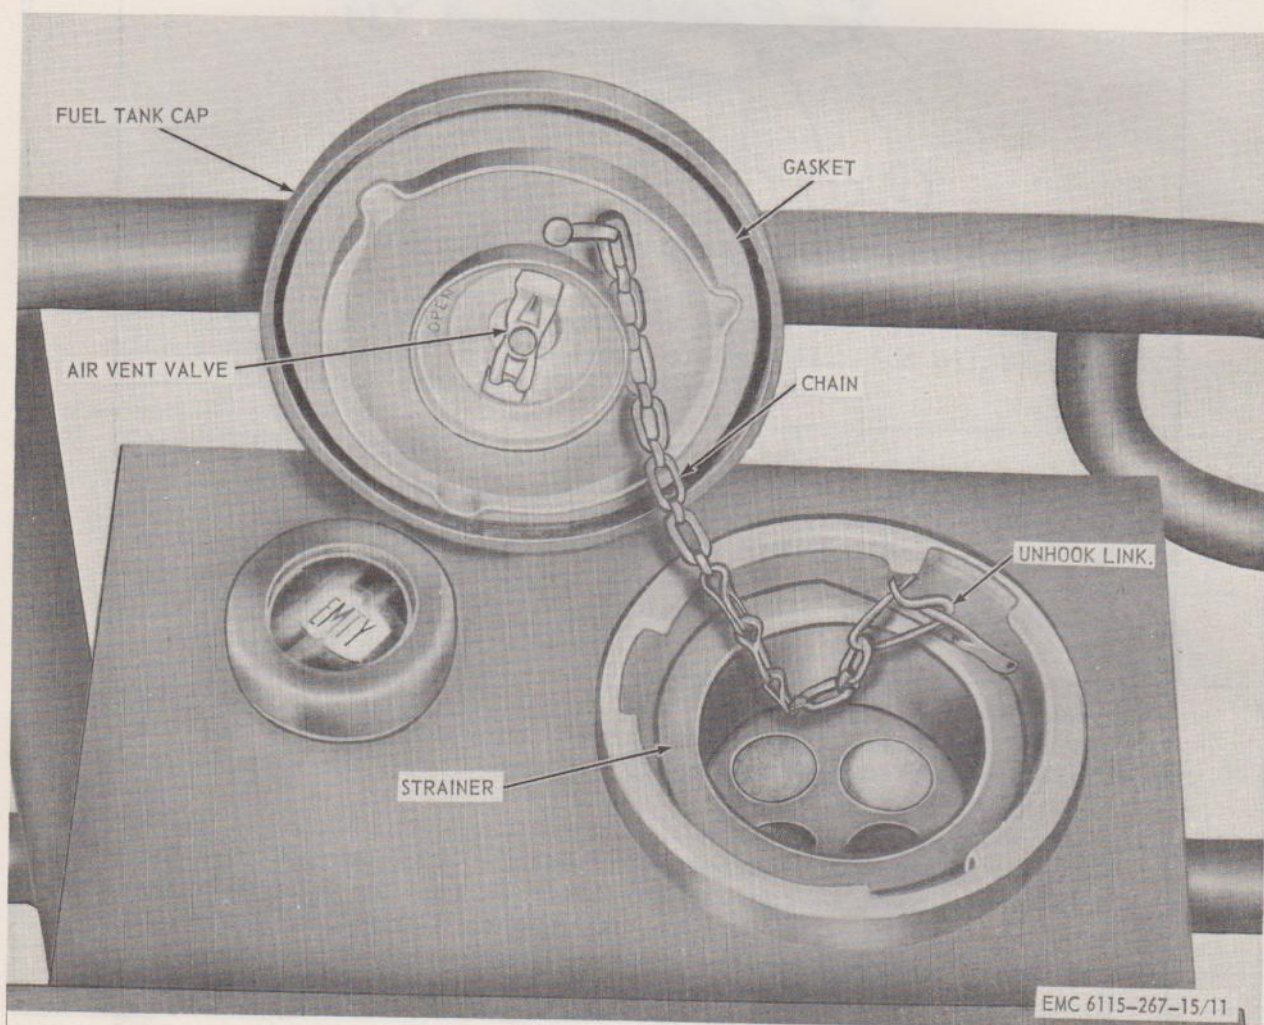

Figure 11. Fuel tank cap and strainer—removal and installation.
(1) Scrub the cover with a dry brush.
(2) Inspect the cover for tears in the fabric, ripped seams, burned spots, mildew, and frayed or broken draw rope. Inspect for broken or missing fasteners.
(3) Replace an unserviceable canvas cover.
a. Removal. Refer to figure 11 and remove the fuel tank cap and strainer.
- (3) Replace a defective gasket. Replace an unserviceable cap or strainer.
c. *Installation.* Refer to figure 11 and install the fuel tank cap and strainer.